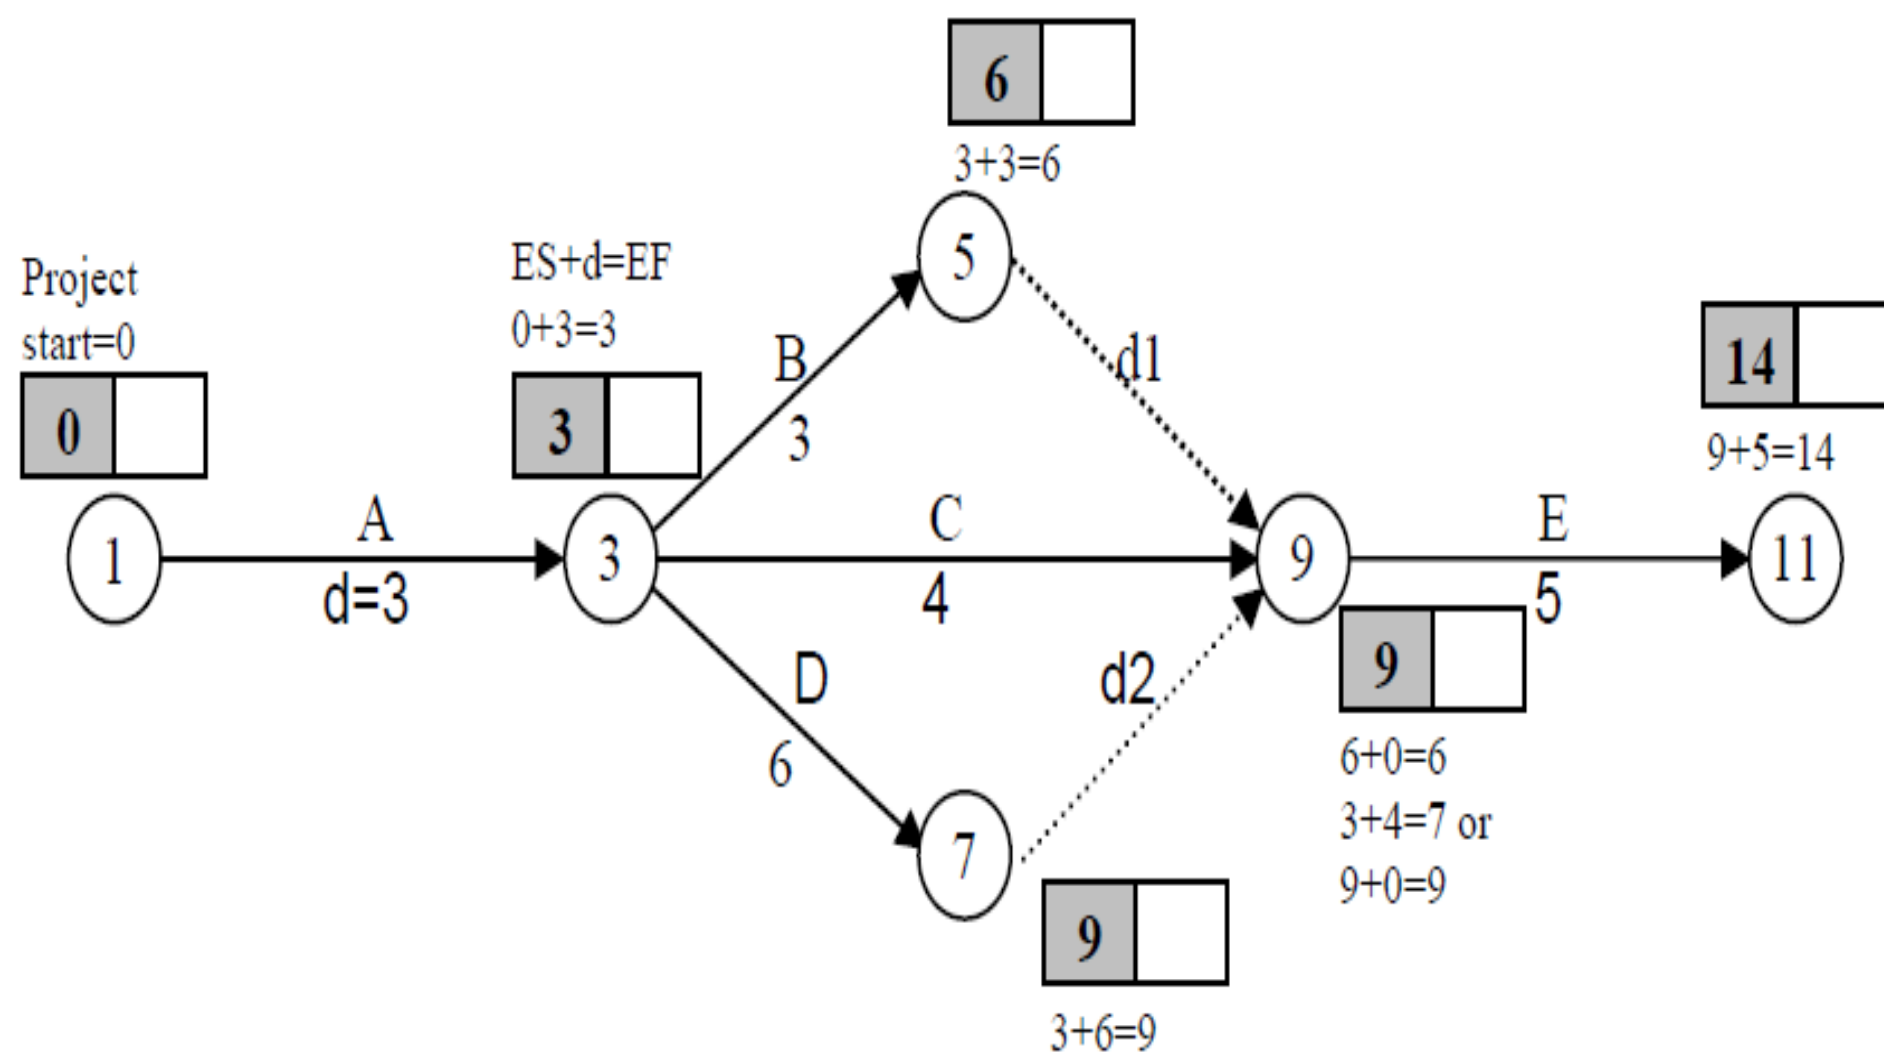

Figure 4: Forward path calculations in AOA networks
- ❖ Accordingly, the ES time of all successor activities to node 3 (activities B,C and D) is time 3 as showed in the shaded box on the top of node 3 in Figure 4.